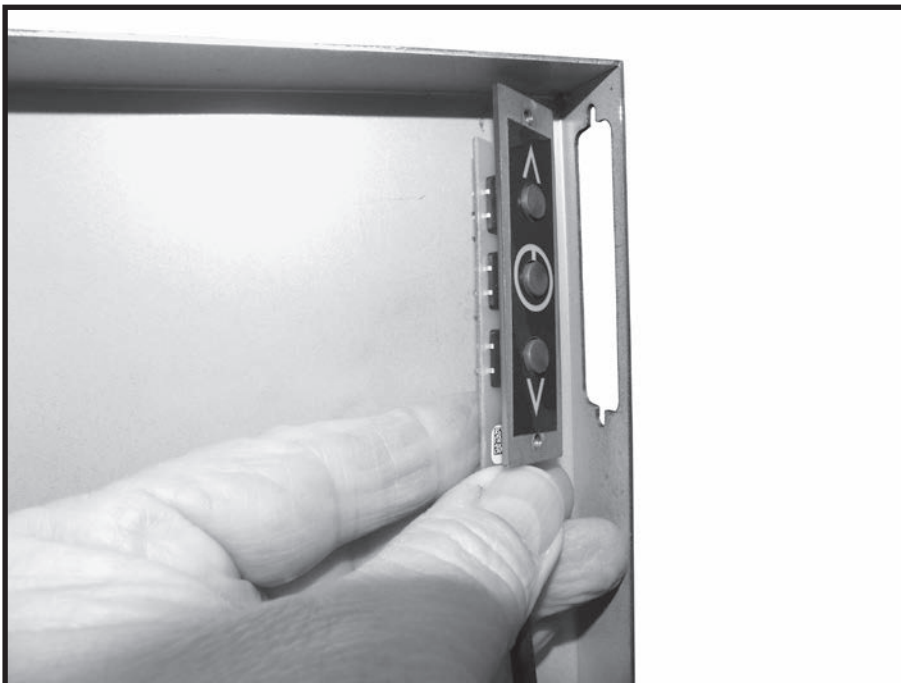

Figure 80: Positioning the switch behind the backing plate opening slot.
2. Position the ON/OFF switch against the open slot on the surround backing plate. Be sure to orient the switch as shown in Figure 80.